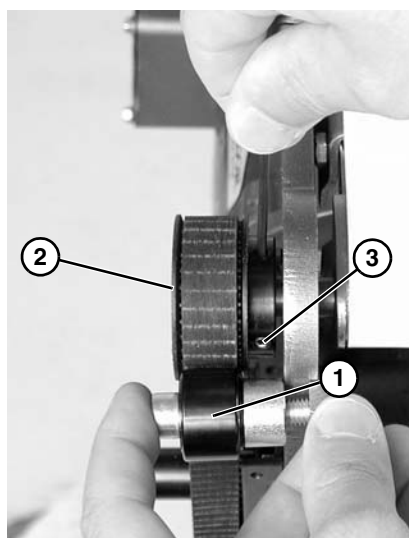

Figure 11
8. Place the cam bearing and spacer (**Figure 11, item 1**) next to the driven pulley (**Figure 11, item 2**). Ensure the flanges of the driven pulley are aligned with the cam bearing. Tighten driven pulley set screws (**Figure 11, item 3**). This will allow for proper belt alignment while conveyor is in use. Replace cam bearing and spacer.